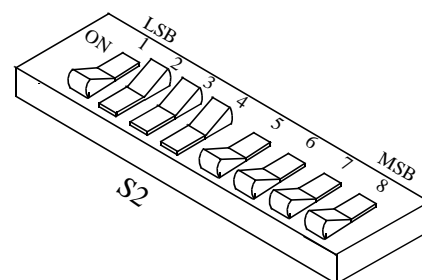

Figure 1-17 MLM S2 GATE SETTINGS
1. Set S2 switches in the MLM drawers as shown in Figure 1-17 and reset the MLM. This enables the Receive Audio Gate and Logic Squelch Gate.